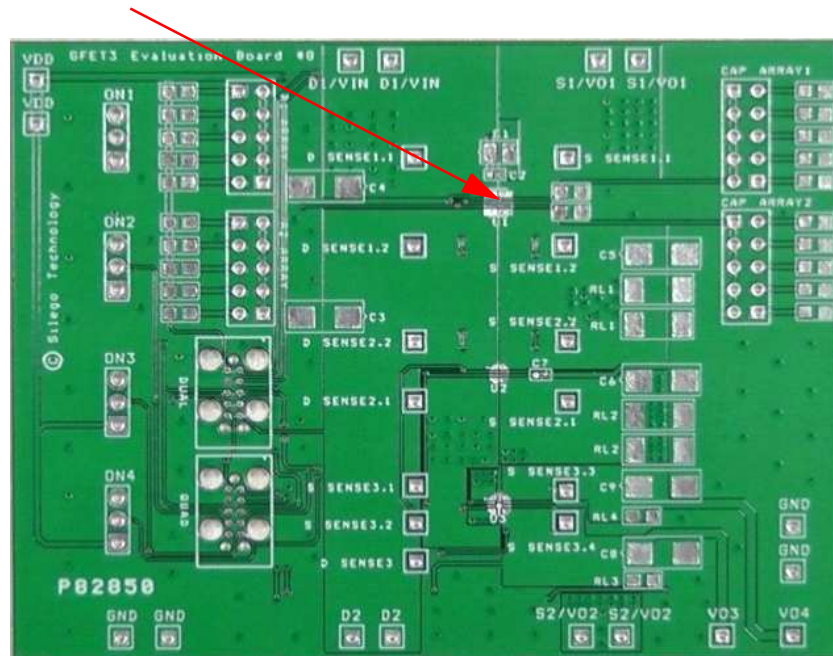

Figure 1. SLG59M1655V Evaluation Board.
2. Since the D and S pins dissipate most of the heat generated during high-load current operation, it is highly recommended to make power traces as short, direct, and wide as possible. A good practice is to make power traces with an absolute minimum widths of 15 mils (0.381 mm) per Ampere. A representative layout, shown in Figure 1, illustrates proper techniques for heat to transfer as efficiently as possible out of the device;
A GreenFET Evaluation Board for SLG59M1655V is designed according to the statements above and is illustrated on Figure 1. Please note that evaluation board has D_Sense and S_Sense pads. They cannot carry high currents and dedicated only for $R_{DS(on)}$ evaluation.